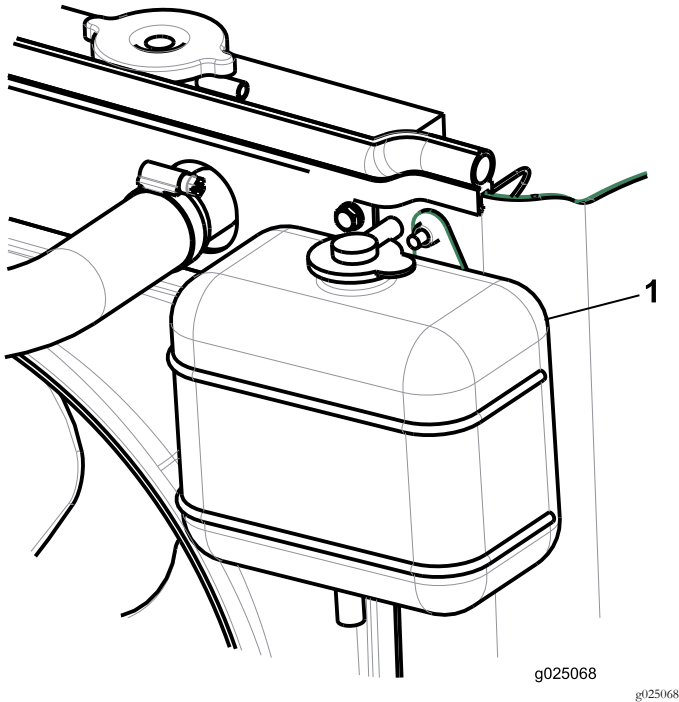

Figure 22
2. Check the level of the coolant in the expansion tank (Figure 22).